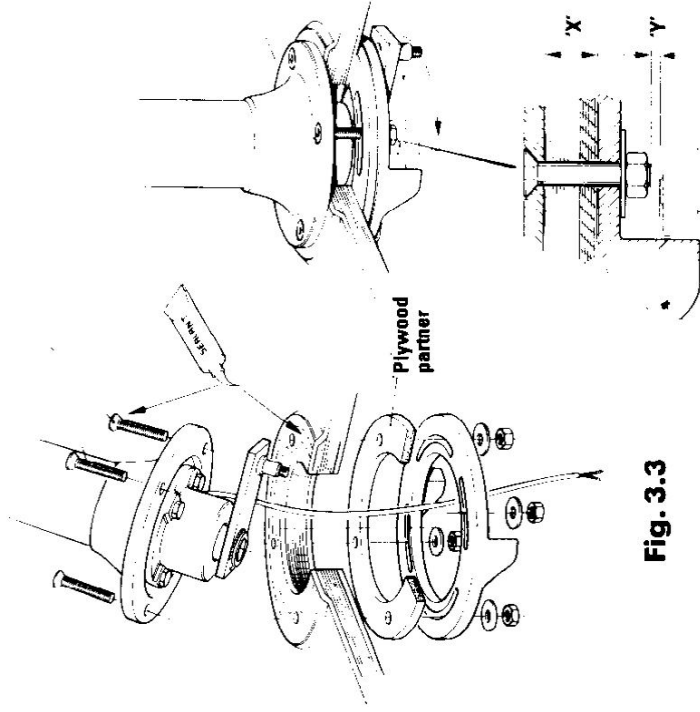

Fig. 3.3
It may be necessary to manufacture a spacer ring to obtain the correct height for the stop ring — see Figure 3.3. Distance 'x' needs to be adjusted to allow the full edge of the output lever to abut the lug on the stop ring.
4.2 When you have aligned the pedestal mark the 4 off 1.3mm/ $1\frac{1}{2}$ diameter holes to be drilled on the cockpit sole. Remove the pedestal and drill holes. Using a non-setting mastic apply a bead of sealant around the underside edge of the pedestal base. Carefully set the pedestal back in position and insert the four pedestal mounting bolts. Put sealant under the head of the countersunk bolts and tighten using heavy washer and nuts. See Figure 3.3.